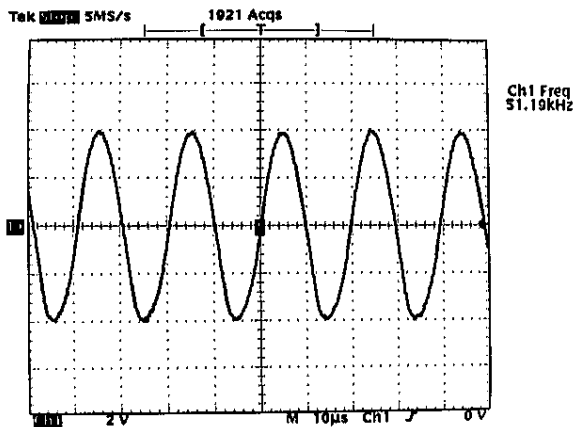

Figure 1.
3. Verify channel 1 and 2 oscillator sine wave (shown in Figure 1) forms across LA1 and LA2 (surge protectors). The sine wave should be 8 to 10 V_{p-p} and between 20 and 100 kHz.